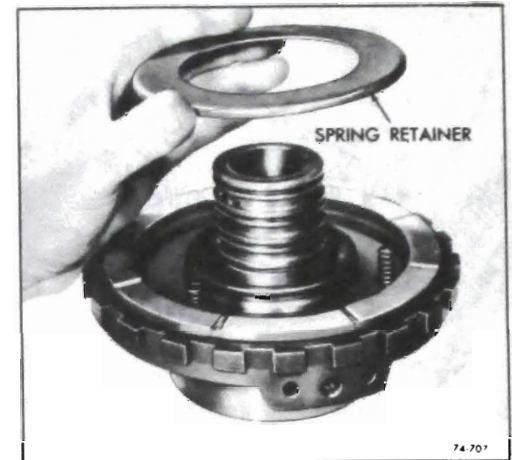
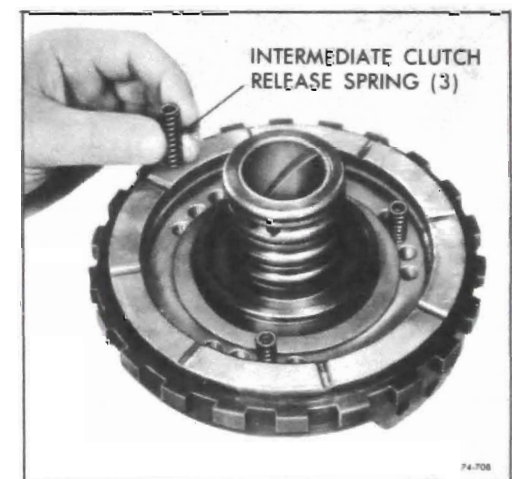

Figure 76-707
Figure 76-708
3. Remove spring retainer. See Figure 76-707. Remove three (3) clutch release springs. See Figure 76-708.